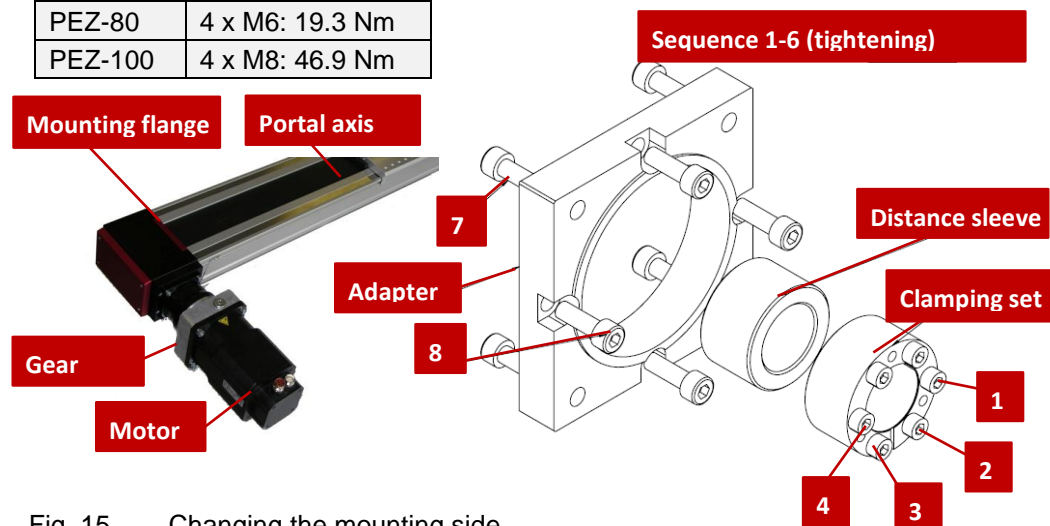

Fig. 15 Changing the mounting side
- Loosen the 4 screws (Fig. 15, 7) on the clamping set.
5. Remove the 4 screws (Fig. 15, 8).
6. Remove the gearbox adapter (Fig. 15) together with the gearbox and motor.
7. First, push the adapter sleeve (Fig. 15) and then the clamping set (Fig. 15) onto the gear shaft as far as it will go.
- Pre-tension the clamping screws in the sequence (Fig. 15, 1-6).